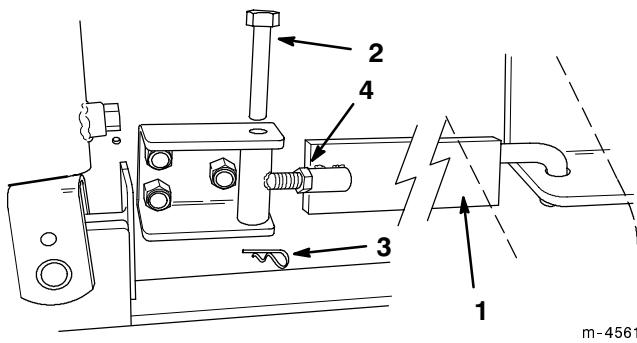

Figure 14
19. Install the side bars on each side as illustrated in Figure 14. The decal on each side bar must be visible when installed.
20. If the bars do not fit snugly, remove them, loosen the jam nut, and thread the compound side bar together or apart as needed to ensure that they fit as tight as possible (Fig. 14). Tighten the jam nut when finished.